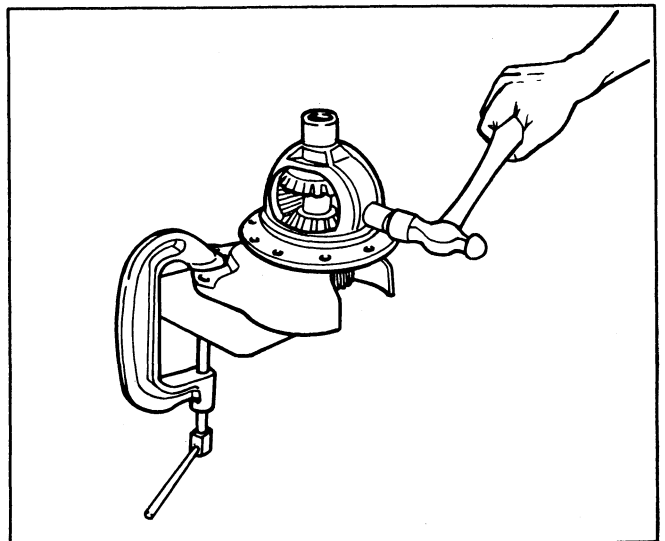

Figure 2-11. Peening Case Over Top of Pin
1. Install differential side gears (18) thrust washers (19), differential pinion mates (16), thrust washers (17), and differential pinion mate shaft (15) in the differential case. Lubricate all parts with differential lubricant. If new gears and washers are used, it will not be necessary to check gear backlash. Correct fit is provided when using new parts.
2. Align lock pin hole in differential pinion mate shaft (15) and drive in differential pinion mate shaft lock pin (10). Peen case metal over top of pin to lock in place (See Figure 2-11).